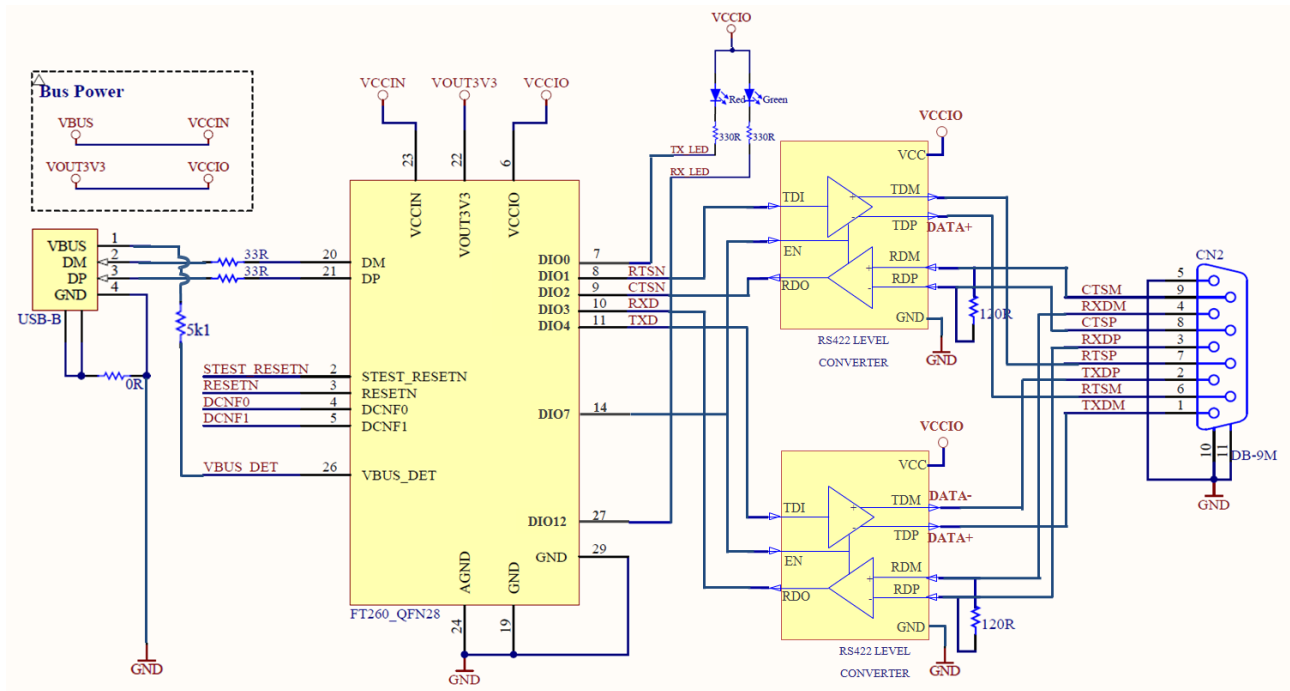

Figure 8.4 Application Example 4 : USB to RS422 Converter
An example of using the FT260 as a USB to RS422 converter is shown in Figure 8.4. In this application, two TTL to RS422 Level Converter ICs are used on the serial UART interface of the FT260 to convert the TTL levels of the FT260 to RS422 levels.
There are many suitable level converter devices available. In Figure 8.4, the converter devices have an enable control (EN) to activate the data lines. Setting DIO7 as SUSPOUT_N allows the FT260 to disable the level converters when the system is in suspend. SUSPENDOUT_N is an active-low signal. The DIO0 and DIO12 of the FT260 can be configured as TX_LED and RX_LED. The FT260 can toggle LEDs with these signals when the UART interface is transmitting and receiving data.